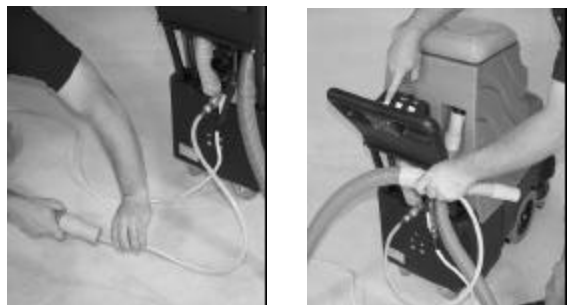

Fig. 14
3. Place end of utility hose in end of vacuum hose and seal with hand (Figure 14).